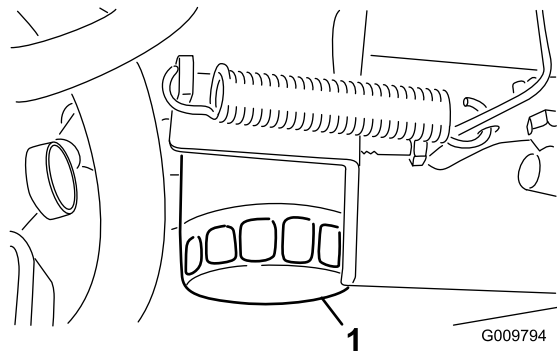

Figure 37
- Remove the oil filter (Figure 37).